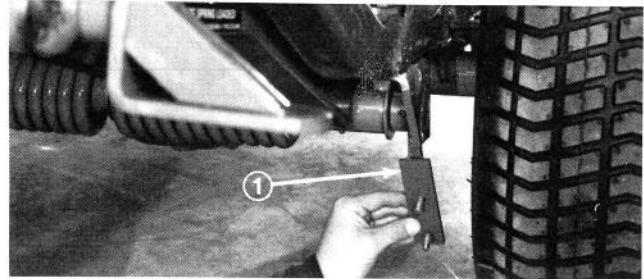

Figure 5
5. Position Belly Shield mounting hooks over hub of push arm mounting brackets (Fig. 5).